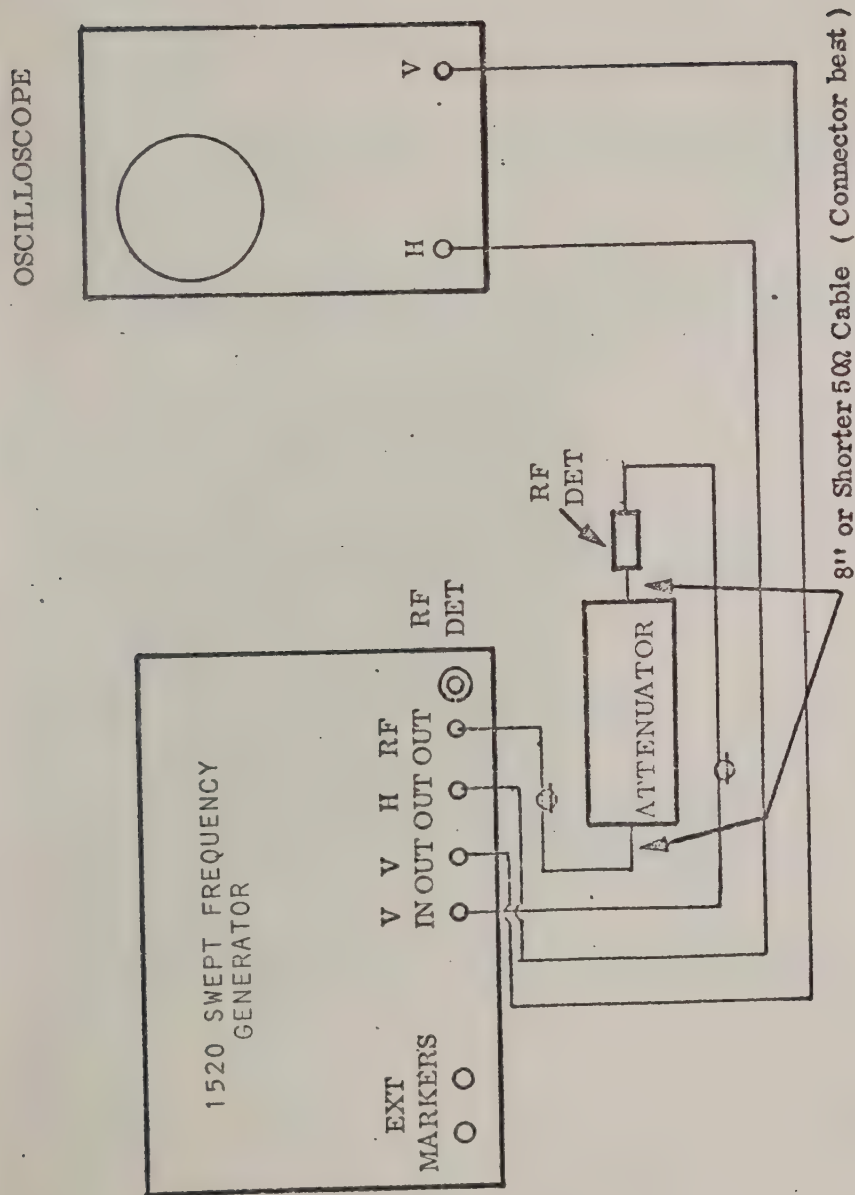

FIGURE 3.3 DETECTOR TEST SET-UP
- (1) Connect the equipment as shown in Figure 3.3.
- (2) Use an attenuator which has ± 0.2 db flatness, or better, in any of the six bands.
- (3) For optimum results it is best to connect the attenuator directly to the RF OUT jack of 1520 at one end and directly to the detector at the other end.
- (4) Starting with the 600 MHz to 1200 MHz band, sweep the entire frequency range using markers to ascertain that the frequency response measured is within the band limits.
- (5) Adjust the Vertical Gain control for a reasonable scope presentation.
- (6) Switch in 1 db of attenuation in the added attenuator and note the change in level corresponding to the 1 db change. Check to see if the unattenuated variations are within the 1 db limit (± 0.5 db).
- (7) Repeat this procedure on all other bands.
- (8) On the .05 - 10 MHz band, the bandwidth should be reduced when checking the detector in the .05 MHz to 1 MHz region. Also the Low Frequency Detector Adaptor should be used below 1 MHz. The Variable Marker may be used for frequency identification.